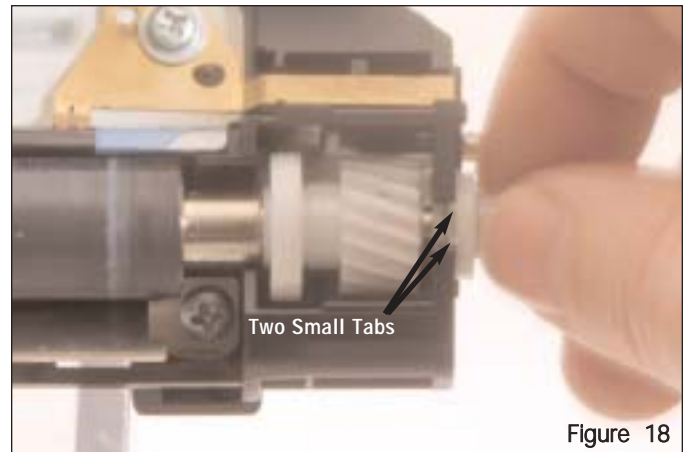

Figure 18
4. Re-install the small white Center Bearing on the Gear Side of the Developer Roller Shaft. The Bearing is positioned so that the two small Tabs on the side of the Bearing will fit in to the Developer Roller Shaft opening on the Cartridge. See Figure 18.